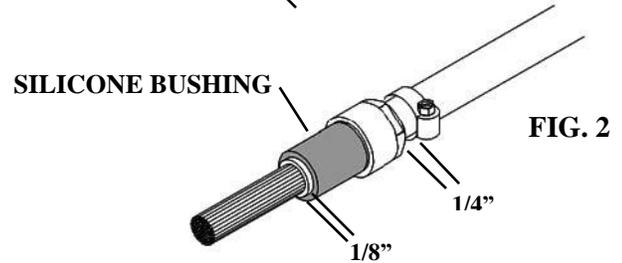

FIG. 2
3) **Choose the correct size bushing for the fiber count!** Slide the silicone bushing onto fiber jacket until the jacket extends approximately 1/8" past the end of the bushing. Slide the compression nut up against the silicone bushing. Slide the clamp up to within 1/4" of the compression nut and tighten. **FIG. 2**